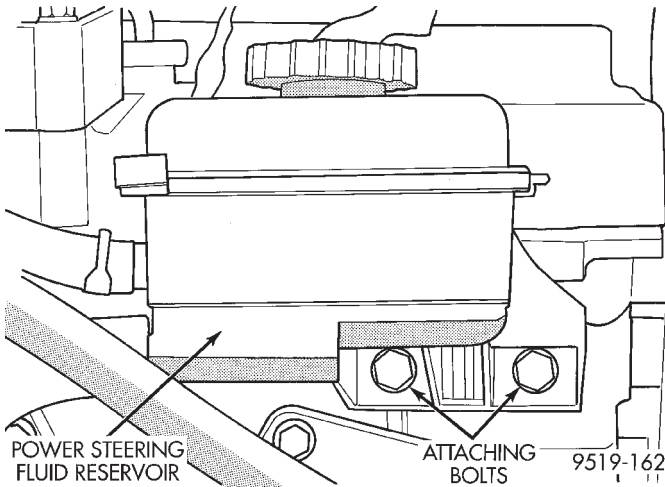
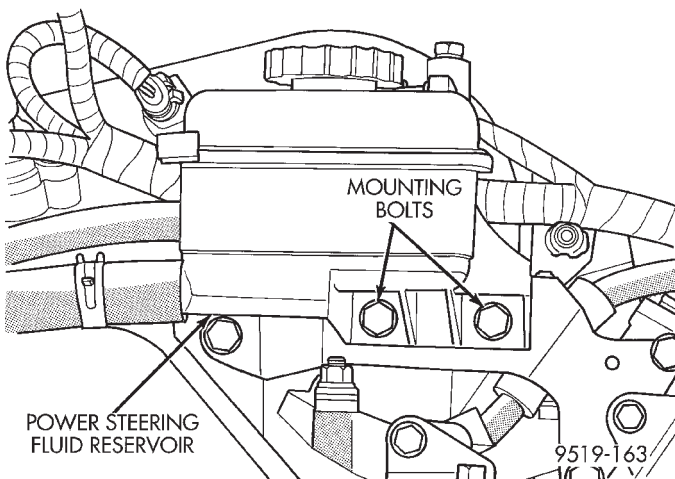

Fig. 45 Power Steering Fluid Reservoir Mounting 2.0 And 2.4 Ltr. Engine
Fig. 46 Power Steering Fluid Reservoir Mounting 2.5 Liter Engine
(6) Remove bolts attaching power steering fluid reservoir to engine (Fig. 45) or (Fig. 46).
(1) Install power steering fluid reservoir on cylinder head. Install and securely tighten the power steering fluid reservoir attaching bolts (Fig. 45) or (Fig. 46).
(2) Install power steering fluid return and supply hose, on power steering fluid reservoir fittings. **Be sure both hose clamps are installed on hose past upset bead on power steering reservoir fittings.**
(3) Raise vehicle.
(4) Install power steering supply hose, on suction fitting of the power steering pump. **Be sure hose clamp is installed on hose past upset bead on power steering gear steel tube.**
(5) Fill power steering pump fluid reservoir to the proper level.
(6) Start the engine and let run for a few seconds. Then turn the engine off.
(7) Add fluid if necessary. Repeat the above procedure until the fluid level remains constant after running the engine.
(8) Raise front wheels of vehicle off the ground.
(9) Start the engine. Slowly turn the steering wheel right and left, lightly contacting the wheel stops. Then turn the engine off.
(10) Add power steering fluid if necessary.
(11) Lower the vehicle and turn the steering wheel slowly from lock to lock.